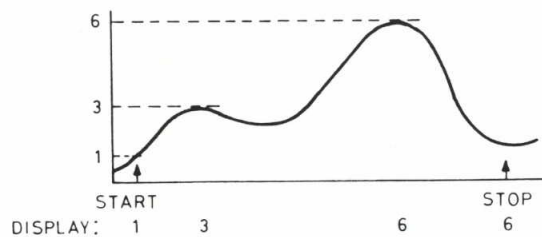

Fig. 19. V^{\wedge} measurement in MAN or EXT START mode.
- External or manual starting and stopping of a measurement (fig. 19).